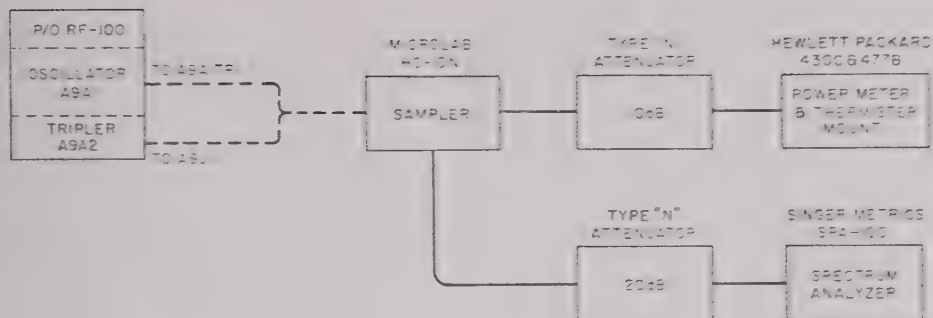

Figure 4-9. Test Setup for Alignment of Oscillator-Tripler Assembly A9
- a. Connect the test equipment as shown in figure 4-9.